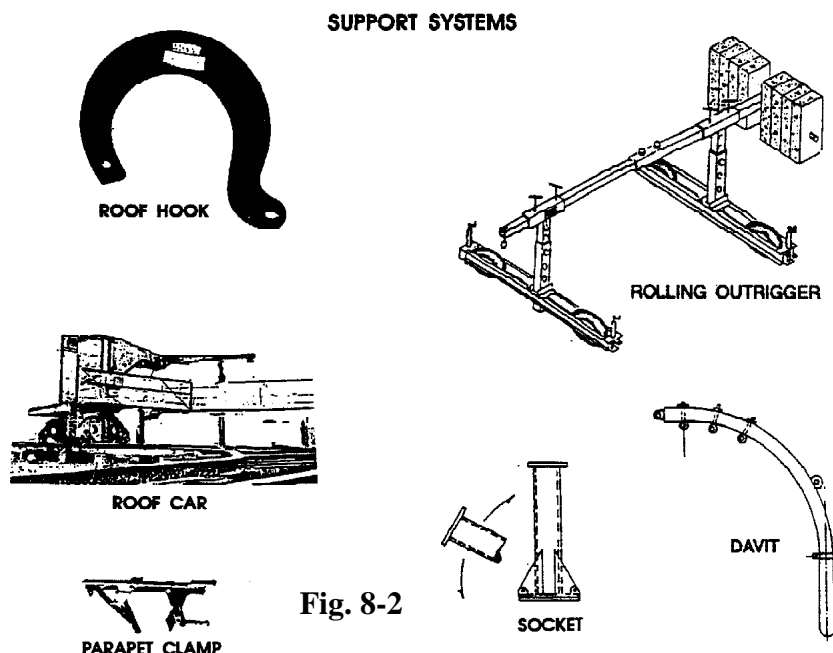

Fig. 8-2
- All supports have some part overhead (Fig.8-2), that is, above the platform. Some supports are **anchored directly overhead**, and some supports have arms that reach out overhead.